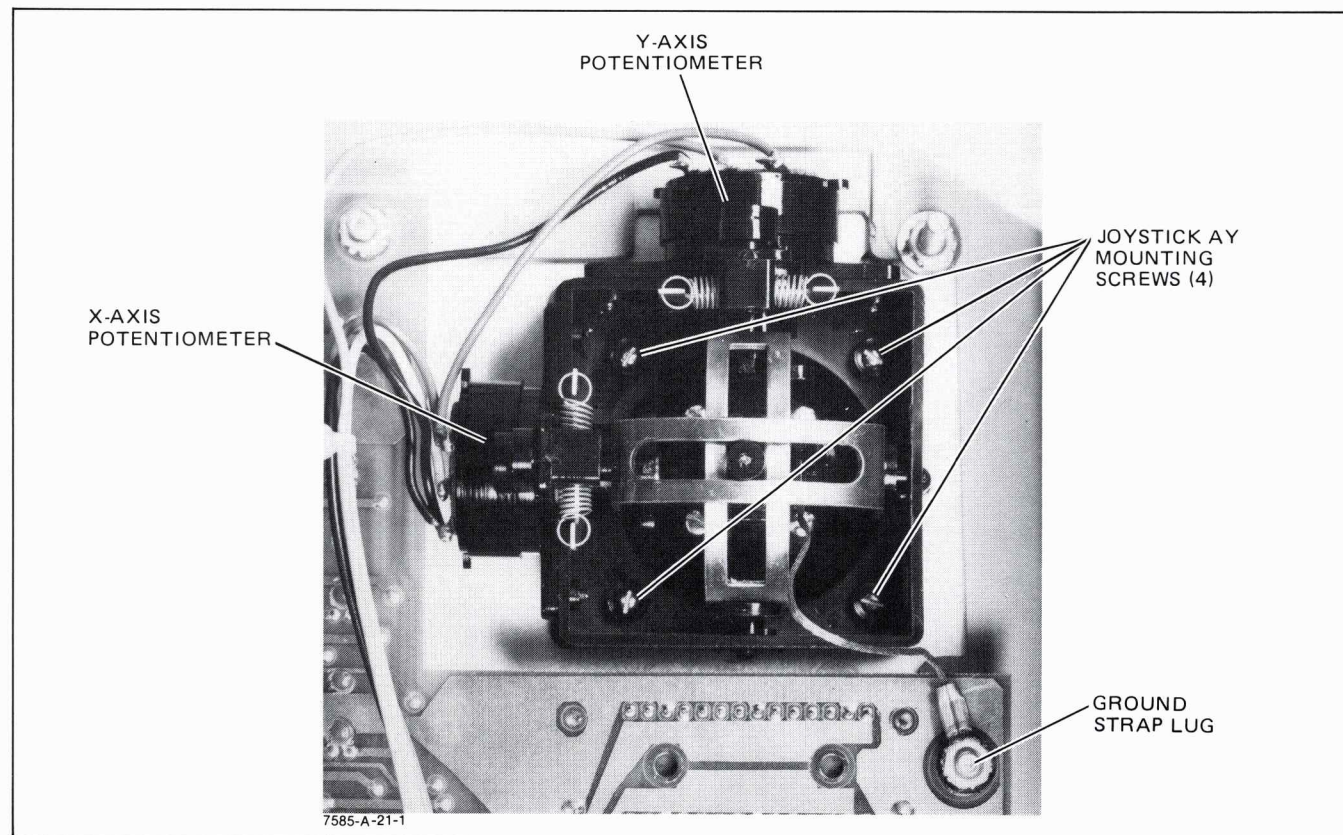

Figure 3-6. Joystick Null Adjustment
- d. Disconnect the joystick grounding strap and release the joystick assembly from the front panel. Do not disconnect the joystick wires from the Front Panel PCA. See Figure 3-6.
- h. Hold the joystick assembly firmly and rotate the body of the joystick X-axis potentiometer until the front-panel A/N display is 80. Be sure the joystick itself is not moved from its null position while adjusting the potentiometer. See Figure 3-6.
- j. Repeat step h. except rotate the Y-axis potentiometer instead of the X-axis potentiometer. See Figure 3-6.